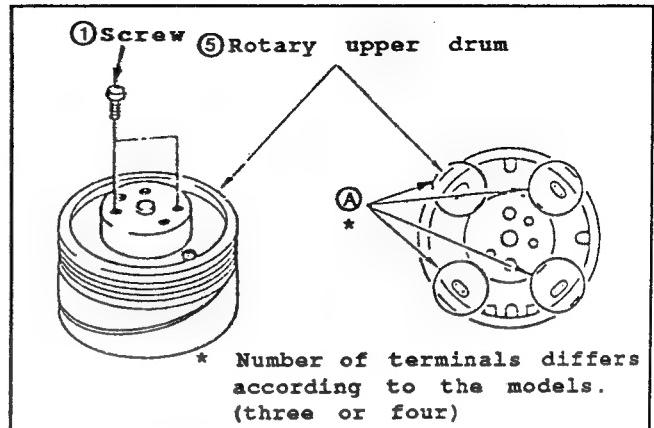
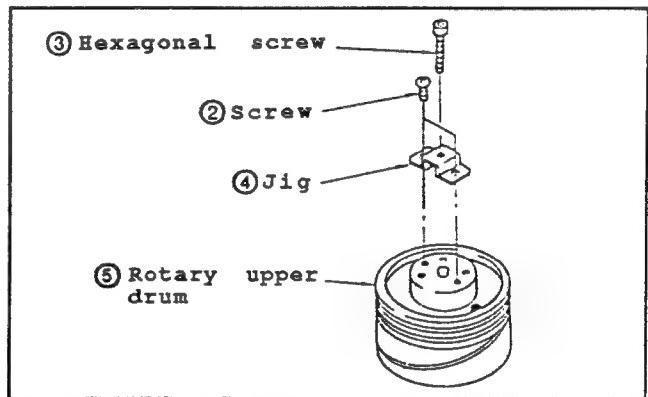
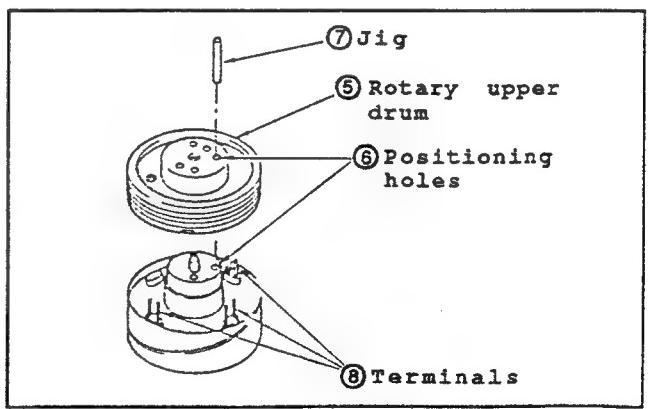

Fig.II-27
Fig.II-28
Fig.II-29
- (1) Unsolder three solderings ①. Then, confirm that the terminals which come out from the hole of C.B.A. can be moved freely. (Fig.II-27)
- (2) Remove the two setscrews ②.
- (3) Secure the jig ④ to the drum with the two setscrews ②. (Setscrews supplied with jig ④ as a set.) Then, screw in the hexagonal bolt ③ into the hole of jig ④ to dismount the rotary upper drum ⑤. (Fig.II-28)
- (1) Clean the flange surface and the rotary upper drum ⑤ surface which faced the flange surface. Check that there is no dust particles and flaws.
- (2) Insert the jig ⑦ into the drum positioning holes of upper/lower rotary drum. (Fig.II-29)
*Note: At this time confirm that the terminals ⑧ come out from the holes of the rotary upper drum C.B.A..
- (3) Pull out the jig ⑦, and then push the rotary upper drum ⑤ into the lower one manually and gently. If it cannot be set completely to the bottom, Tighten the two setscrews ① alternately and temporarily. (Fig.II-27)
- (4) Insert the jig ⑦ into the positioning holes ⑥ again. If it cannot be inserted smoothly, loosen the two setscrews ①. Then perform the step (3) of disassembling procedure.
- (5) Tighten the two setscrews ① thoroughly.
- (6) Solder the terminals ⑧. (Fig.II-27)